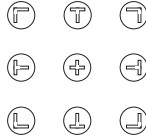

Figure 24: Preset Position Control Keys
- Using the preset position control keys¹ (see Figure 24) on the infra-red remote control transmitter (see Figure 49), which instantly move the position of the zoom to up to nine preset fixed locations²